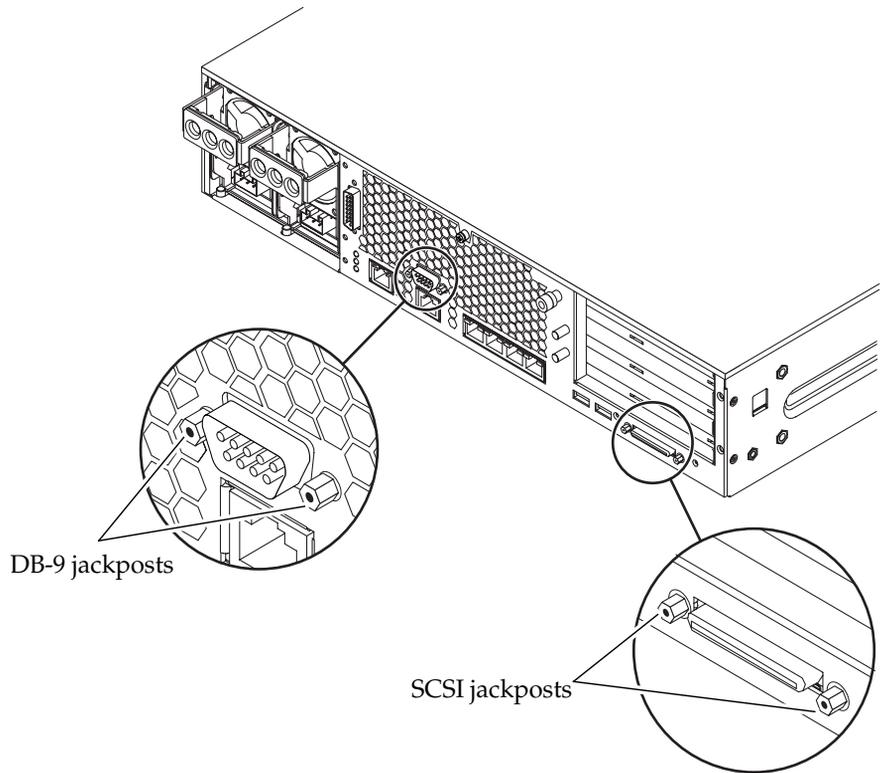

FIGURE 5-16 Removing the DB-9 and SCSI Jackposts From the Server
14. Unscrew and remove the DB-9 and SCSI jackposts on the server back panel (FIGURE 5-16).
12. Install and secure the DB-9 and SCSI jackposts to the server back panel (FIGURE 5-16).